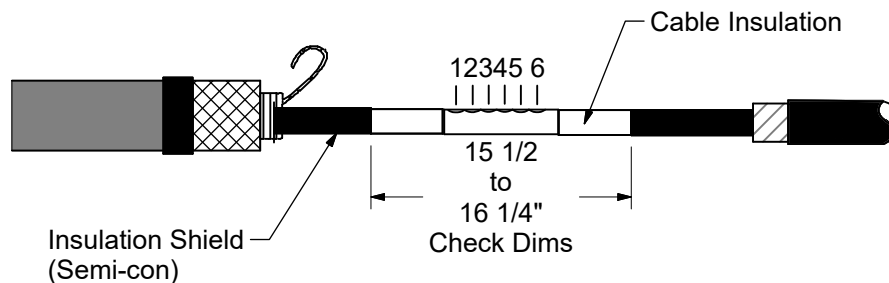

Figure 4
- Before shearing bolts, confirm that the dimension between semi-con cutbacks is between 15 1/2" and 16 1/4" for proper placement of the splice body. See Figure 4.
- Tighten the shear bolts by hand until they are snug against the conductor. Complete the installation by tightening and shearing the bolts in the sequence shown in Figure 4. Use an 8mm hex socket (85-32-776). Install the plastic caps over the shear bolt holes.